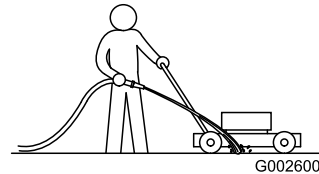

Figure 31
1. With the engine running on a flat paved surface, spray a stream of water in front of the **right** rear wheel (Figure 31).